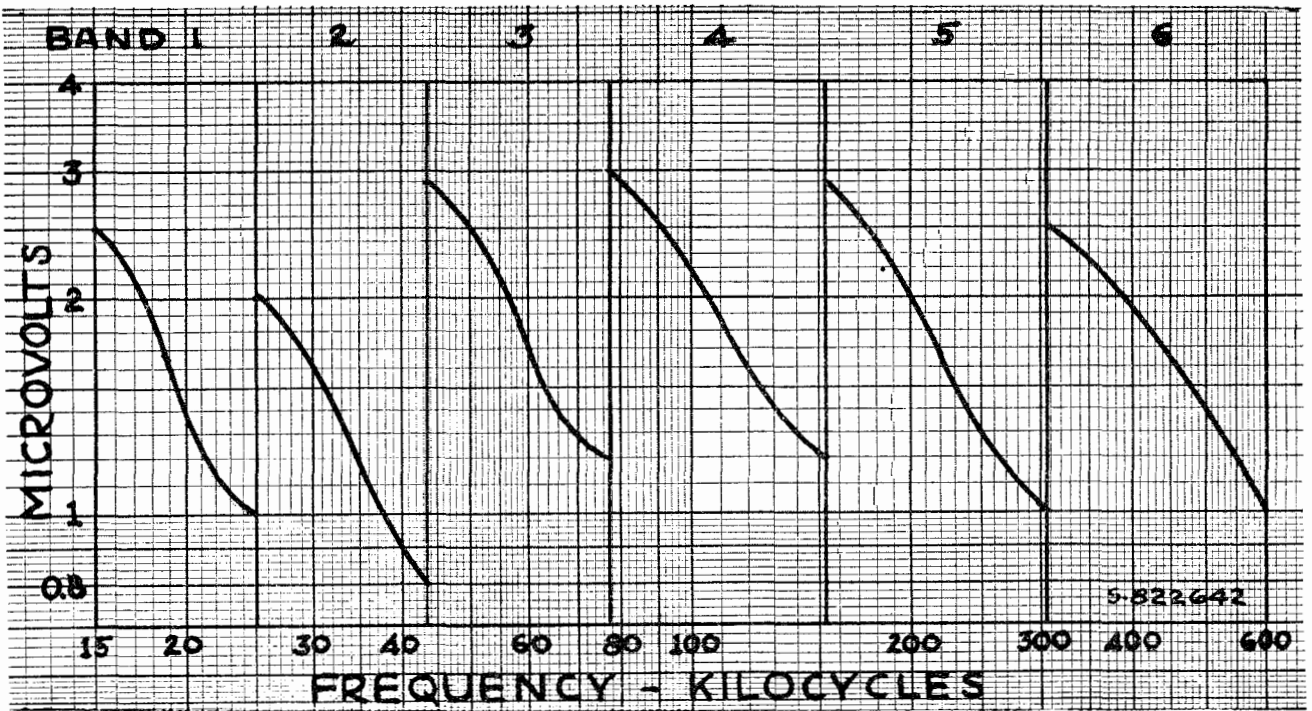

Figure 8—Sensitivity (microvolts for 6/05 M.W. Signal/Noise Ratio)
11.1-1 Figure 8 gives approximate normal sensitivities for the various bands. The procedure and conditions of measurement are as follows: with "AVC-Off", "Audio Tuning-Off", and with a 600-ohm non-inductive resistance at receiver output terminals, pure CW is applied from a signal generator to the receiver input through a standard dummy antenna (200 mmf., 20 microhenries, 25 ohms). The output beat note is held at 1000 cycles (receiver tuned 1 kilocycle higher than signal). The "Regeneration" control is set at standard oscillation (increased beyond critical oscillation to the point where the output drops 3 db or from 2.68 V. in 600 ohms at critical oscillation to 1.9 V. at standard oscillation). The "Sensitivity" control is set for 50 microwatts (0.173 V. in 600 ohms) noise output with no signal input. The microvolts input then required to produce 6 mw. output (1.9 V. in 600 ohms) is measured.